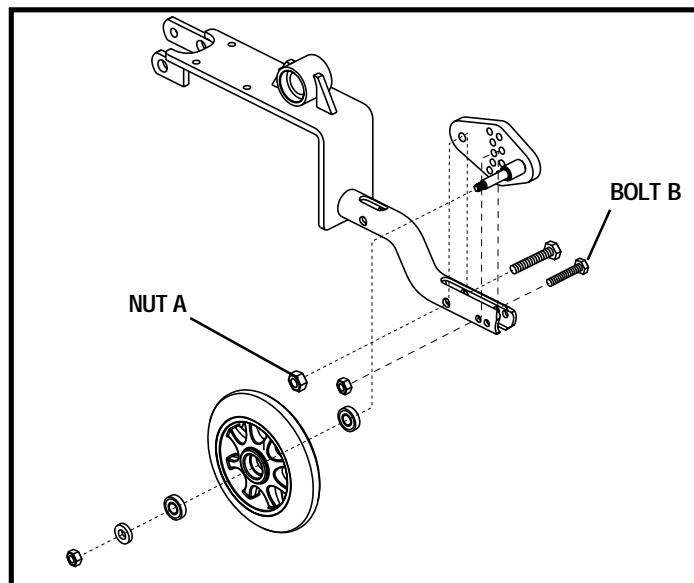

Figure 27. Anti-Tip Wheel Assembly
1. Loosen nut A. See figure 27.